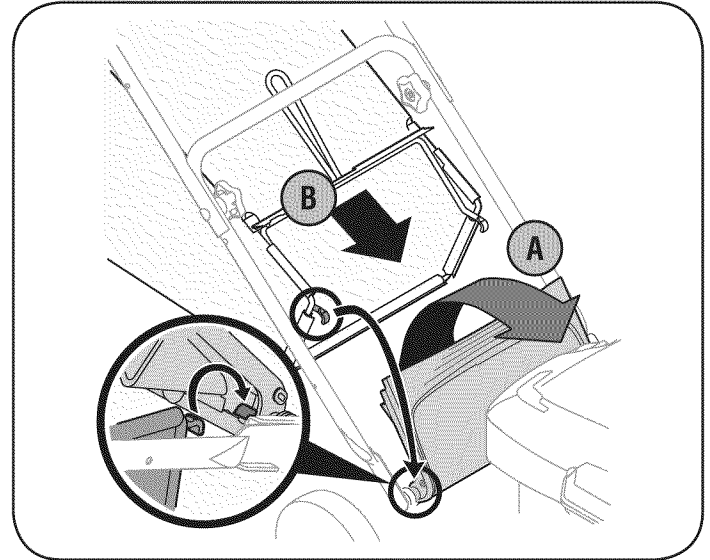

Figure 6
- A. Lift rear discharge door. See Figure 6.